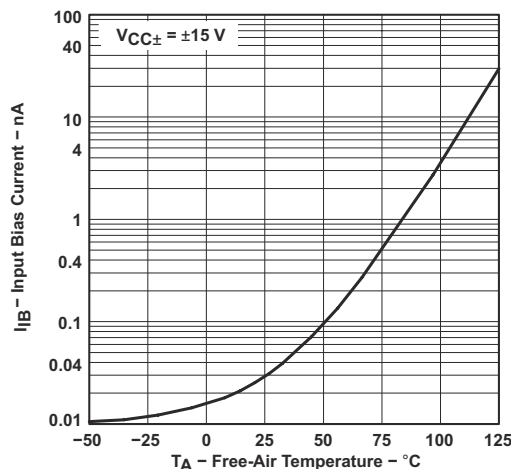

图 6-12. Input Bias Current vs Free-Air Temperature
- (1) All characteristics are measured under open-loop conditions with zero common-mode input voltage unless otherwise specified. Full range for T_A is 0°C to 70°C for TL06xC, TL06xAC, and TL06xBC and -40°C to 85°C for TL06xL.
- (2) Input bias currents of an FET-input operational amplifier are normal junction reverse currents, which are temperature sensitive, as shown in Fig 6-12. Pulse techniques are used to maintain the junction temperature as close to the ambient temperature as possible.
- (3) Specified by design and characterization; not production tested.
- (1) All characteristics are measured under open-loop conditions with zero common-mode input voltage, unless otherwise specified. Full range for T_A is 0°C to 70°C for TL06xC, TL06xAC, and TL06xBC and -40°C to 85°C for TL06xI.
- (2) Input bias currents of an FET-input operational amplifier are normal junction reverse currents, which are temperature sensitive, as shown in Figure 6-12. Pulse techniques are used to maintain the junction temperature as close to the ambient temperature as possible.
- (3) Assured by design and characterization; not production tested.
(1) This parameter is not production tested.
(2) All characteristics are measured under open-loop conditions, with zero common-mode voltage, unless otherwise specified.
(3) Input bias currents of an FET-input operational amplifier are normal junction reverse currents, which are temperature sensitive, as shown in Fig 6-12. Pulse techniques are used to maintain the junction temperature as close to the ambient temperature as possible.
(4) Specified by design and characterization; not production tested.